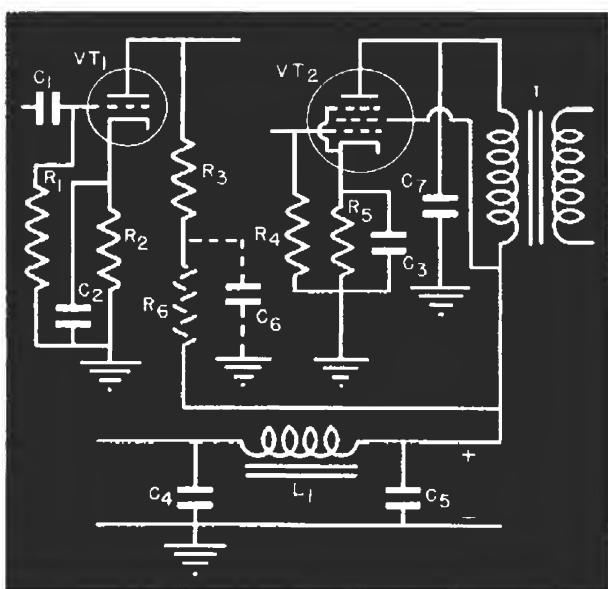

FIG. 22. Motorboating usually occurs in an audio amplifier which does not have decouplers R_8-C_8 , or where this filter is ineffective.
a low impedance to cause feedback. For example, the a.c. plate circuit of the output tube in Fig. 22 traces from the plate, through the primary of transformer T , through condenser C_5 , and then through C_3 back to the cathode. Therefore, audio variations in this plate circuit will create a voltage drop across C_5 , the amount depending on the strength of the variations and on the reactance of C_5 . Since C_5 is the output filter condenser of the power supply, this audio variation is impressed on other tube plate circuits.
► If either condenser C_2 or C_3 in Fig. 22 opens, the variations in the plate current in that stage will develop an a.c. voltage drop across the cathode resistor. This drop will be introduced in the grid circuit; it will be out of phase with the grid voltage, and so will be a degenerative feedback. Such degeneration does not cause oscillation—in fact, it suppresses it. Manufacturers sometimes deliberately introduce this degeneration both to control oscillations and to flatten out the response characteristics of the amplifier. This must be done carefully, because too much will cause an excessive reduction in gain.